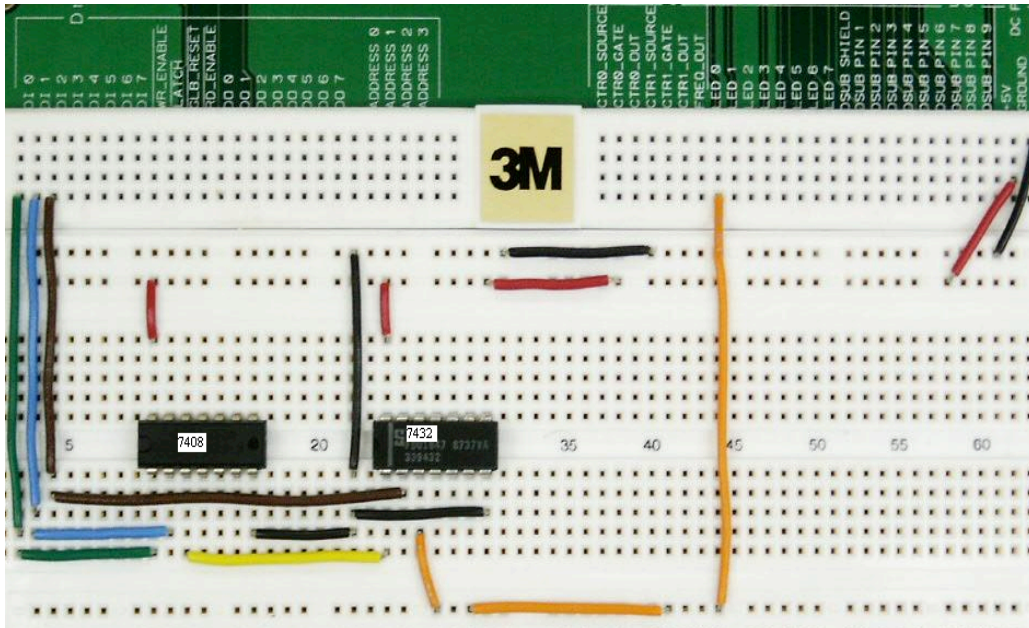

Figure 4. Component Layout for AND and OR gate circuit
- Connect the circuit as shown in figure 4 on the NI ELVIS Prototyping board. Pin 1 of chip 7432 is connected to pin 3 of chip 7408, and pin 2 is connected to DI 2, output of the OR gate pin 3 of chip 7432 is connected to LED 0. Apply +5V to pin 14 and GROUND to pin 7.